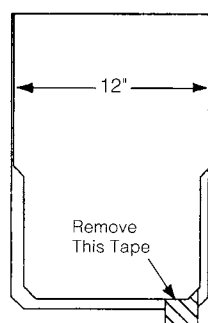

Figure 17-18: Shangle Ridge®.
5. Before nailing, be sure to remove the protective tape from the sealant between the cap's two layers (Figure 17-18).